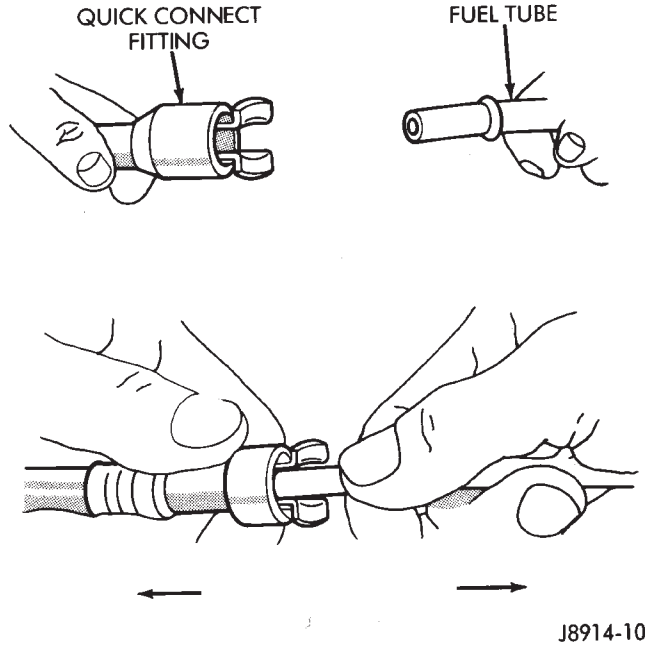

Fig. 22 Fuel Tube-to-Fitting Connection
(1) Push fuel tube into quick-connect fitting until an audible click is heard (Fig. 22).
(2) Verify that connection is secure by firmly pulling back on fuel tube (Fig. 22). The tube should be locked in place.